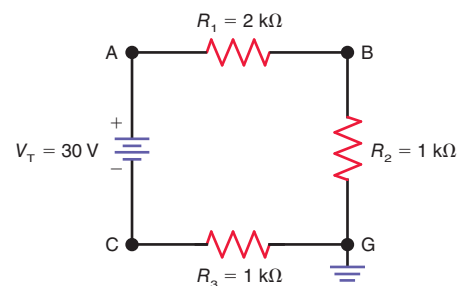

Figure 5-39
5.36 In Fig. 5-39, solve for V_{AG} , V_{BG} , and V_{CG} .